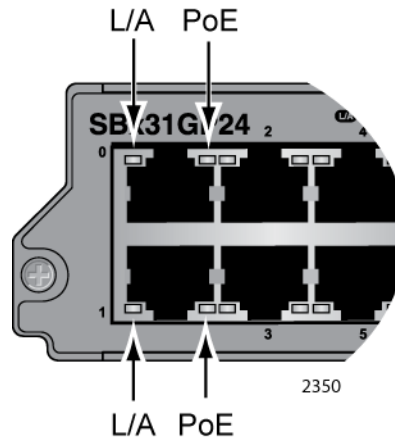

Figure 18. Port LEDs on the AT-SBx31GP24 PoE Line Card
**LEDs** Each port on the AT-SBx31GP24 PoE Line Card has two LEDs. The LEDs are shown in Figure 18 and described in Table 9.